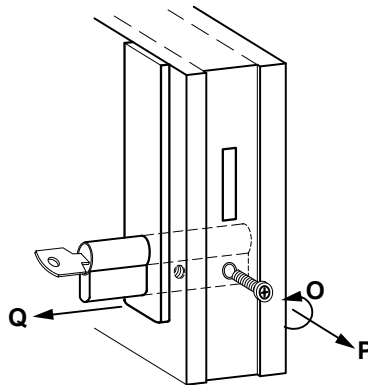

Fig. 4: Replacing the lock cylinder
- Fig. 4: Replacing the lock cylinder 34